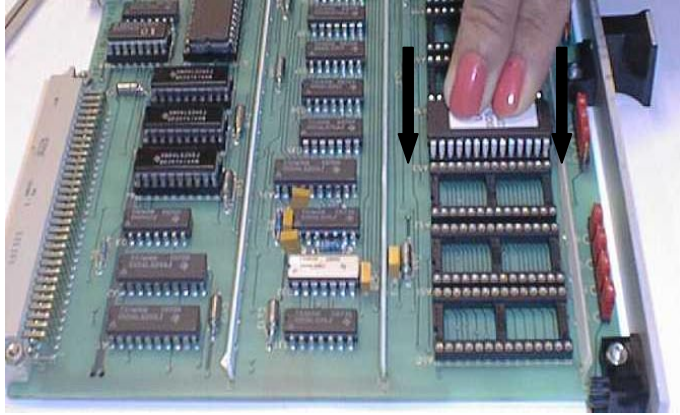

Fig.13 Pressing the datachip into the socket
- (5) Press the datachip even and carefully into the socket (Fig.13).